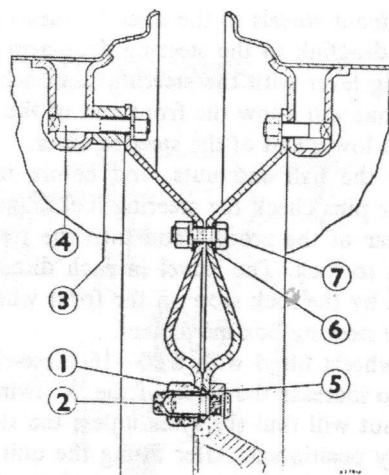

Fig. QQ.12
Secure the inner pair of wheels on the axle first. The locating washers (5, Fig. QQ.12) must be fitted with their radiused side against the wheel disc and the wheel firmly secured in position by means of the wheel nuts (inner, 2).
Assemble the rim of the outer wheel to the wheel disc as shown in Fig. QQ.12, using the distance piece (3) and the special long bolt (4).